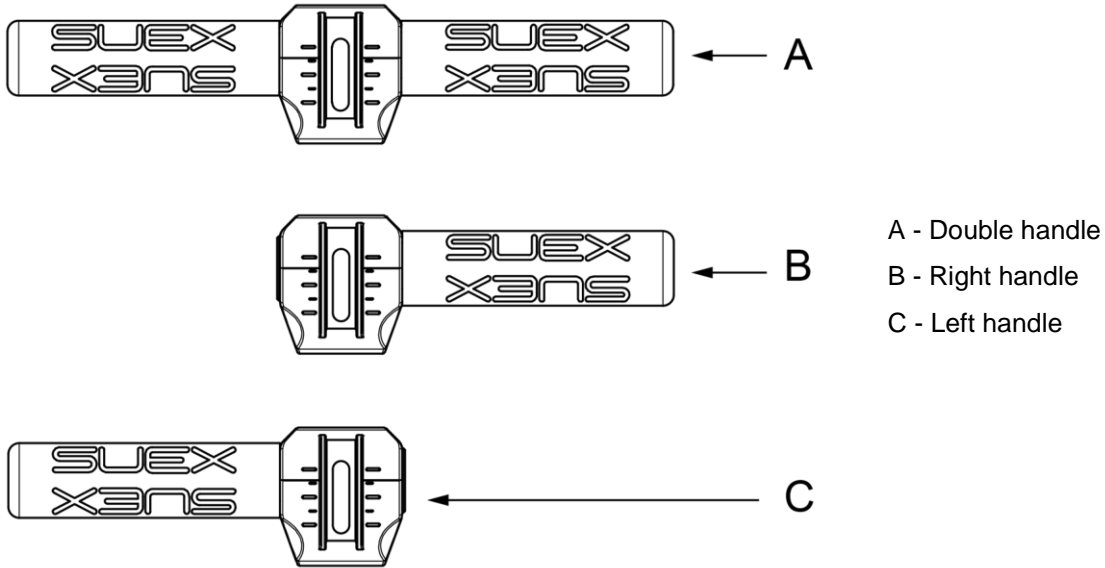

Fig 5 - Adjustable handles
As an alternative to the double handle, the user has the option of mounting either the RIGHT single handle (B - Fig 5 - on p. 9) or the LEFT single handle (C) (provided), depending on his operational needs.